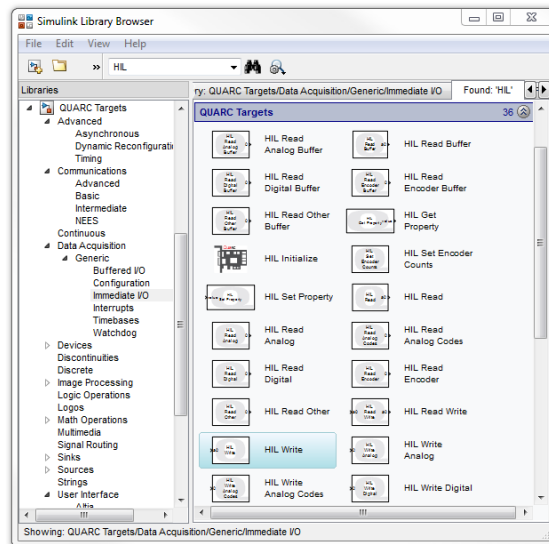

Figure 3.2: QUARC Targets in SIMULINK® Library Browser
4. Expand the **QUARC Targets** item and go to the *Data Acquisition | Generic | Configuration* folder, as shown in Figure 3.2.